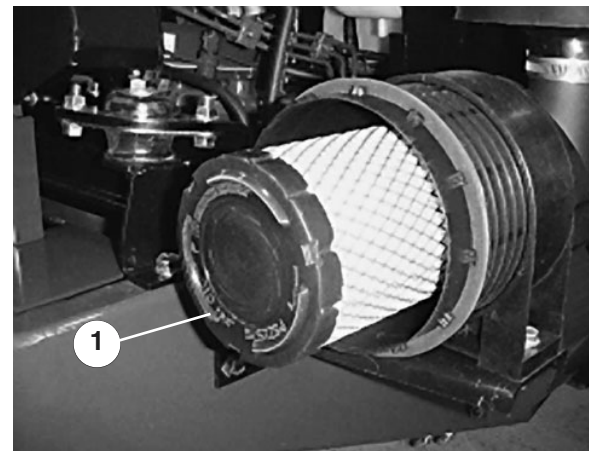

Figure 22
2. Gently slide the primary filter (Fig. 22) out of the air cleaner body to reduce the amount of dust dislodged. Avoid knocking the filter against the air cleaner body.